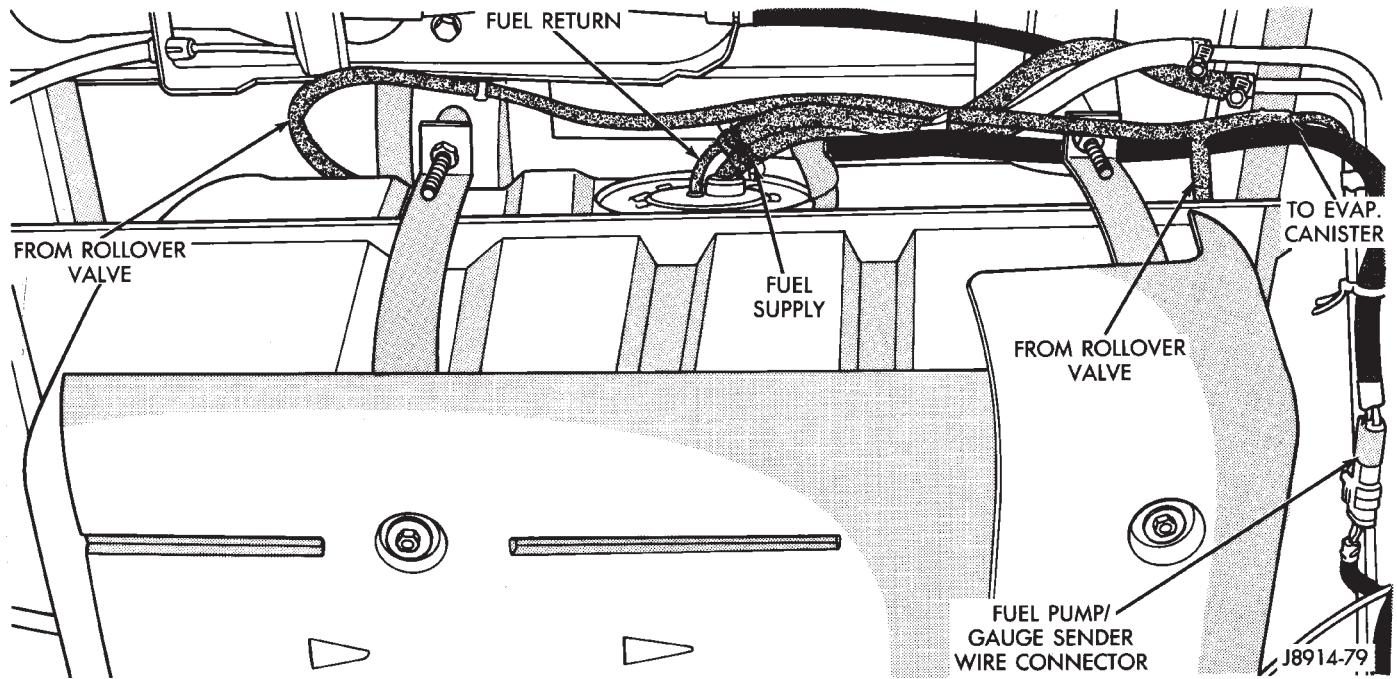
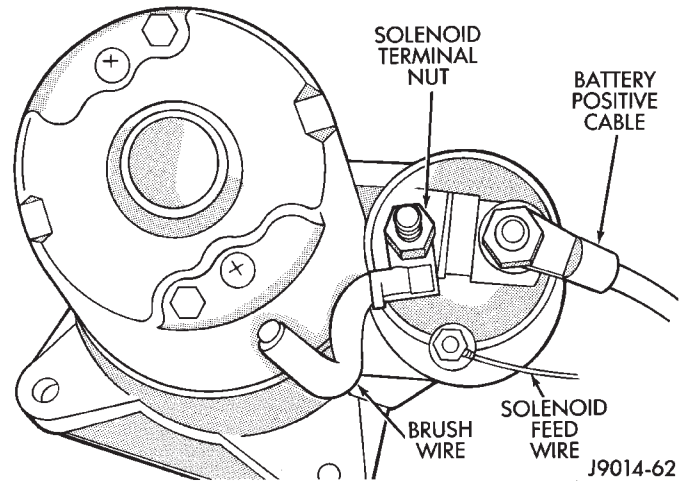

Fig. 28 Fuel Pump Module Connector and Fuel Hoses—Typical
Fig. 29 Starter Solenoid Connections—Typical
(29) Verify that fuel pump module wire connector is firmly connected to harness connector.
(30) Inspect fuel hoses at fuel pump module for cracks or leaks (Fig. 28).
(31) Inspect transmission torque convertor housing (automatic transmission) or clutch housing (manual transmission) for damage to timing ring on drive plate/flywheel.
(32) Verify that battery cable and solenoid feed wire connections to the starter solenoid are tight and clean. Inspect for chaffed wires or wires rubbing up against other components (Fig. 29).